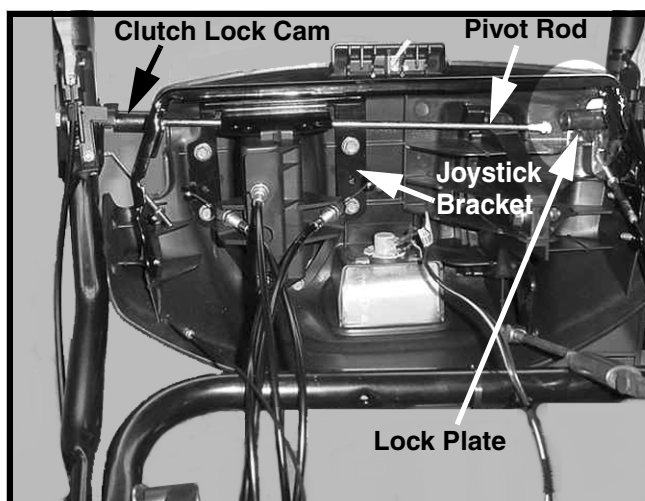

FIGURE 5
10. Carefully lift the LH upper handle up while pushing down on the LH side of the panel assembly so that the LH upper handle can be moved to the outside (left) of the panel assembly. See Figure 5.
11. Moving the LH upper handle out from the panel assembly, see Figure 5, will provide the needed clearance to be able to remove the pivot rod from the lock plate on the RH upper handle.